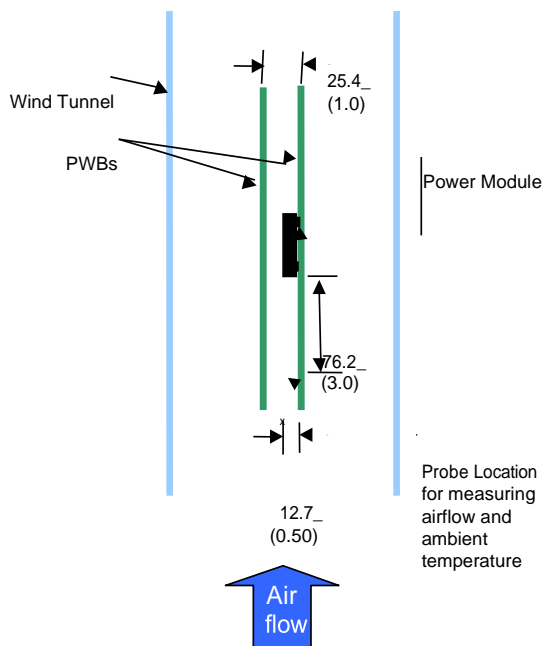
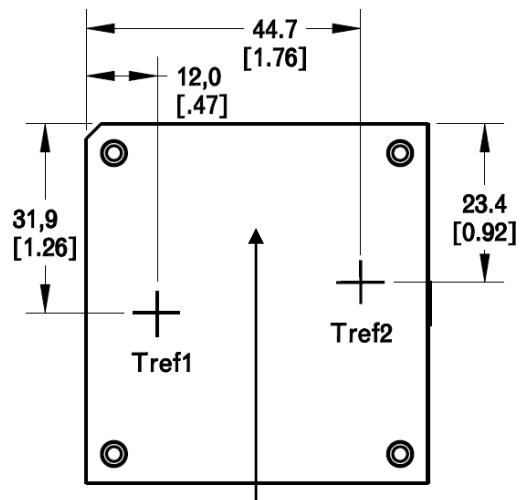

Figure 27. Thermal Test Setup.
Figure 28. Location of hot-spots of the module (T_{ref1} and T_{ref2}).
Considerations include ambient temperature, airflow, module power dissipation, and the need for increased reliability. A reduction in the operating temperature of the module will result in an increase in reliability. The thermal data presented here is based on physical measurements taken in a wind tunnel. The test set-up is shown in Figure 27. The preferred airflow direction for the module is in Figure 28.
The thermal reference points, T_{ref1} and T_{ref2} used in the specifications are also shown in Figure 28. For reliable operation the temperatures at these points should not exceed 98°C. The output power of the module should not exceed the rated power of the module ($V_{o,set} \times I_{o,max}$).